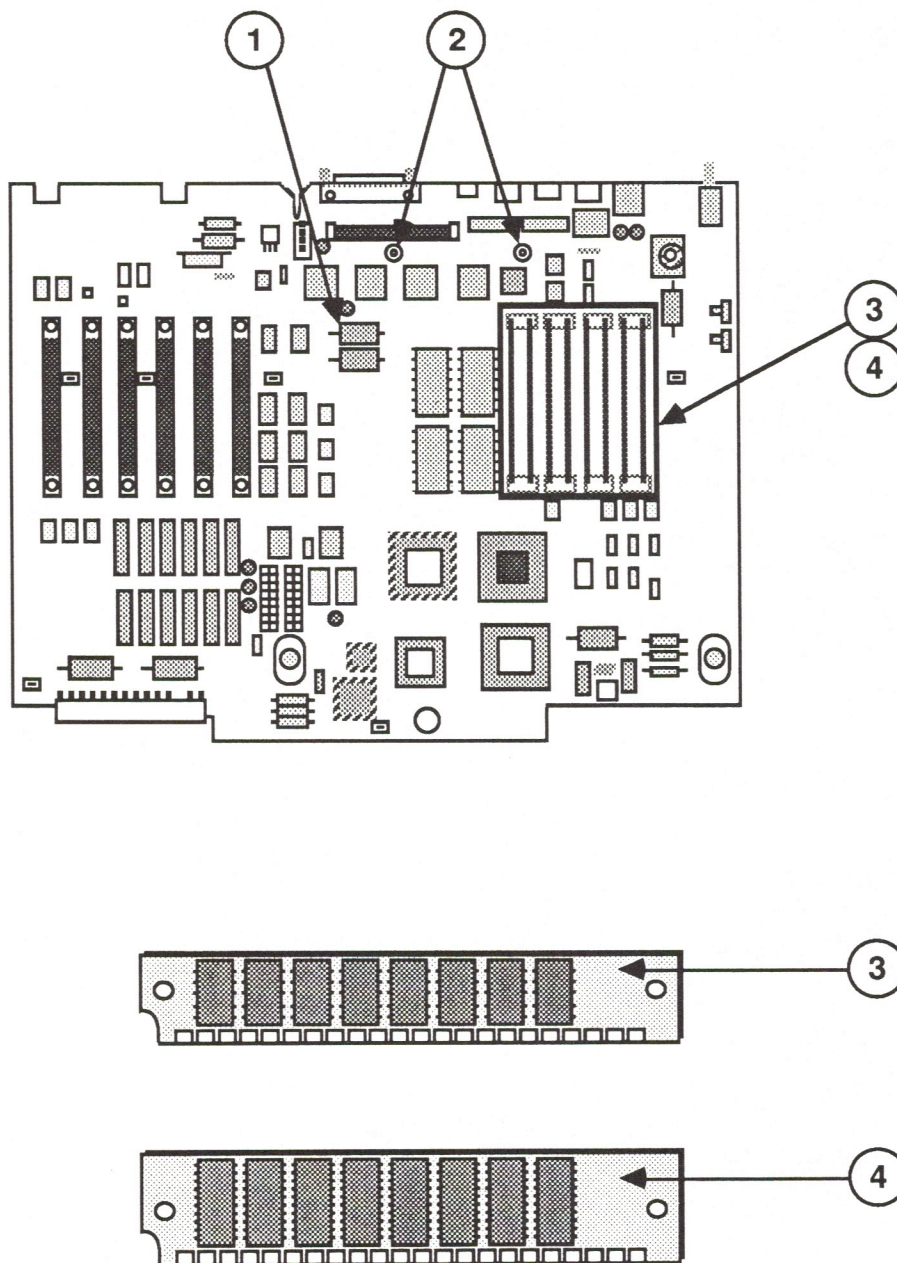

FIGURE 2
- IPL.5 Logic Board (Figure 2)
□ MACINTOSH II – LOGIC BOARD (Figure 2)